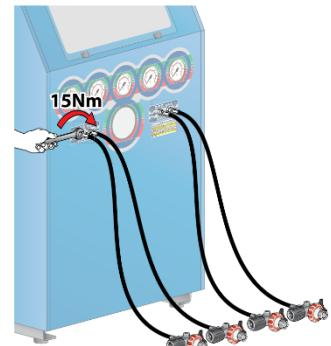

Figure 7. Tank refill hose change.
- Screw the hoses onto the connectors (a, Figure 7).